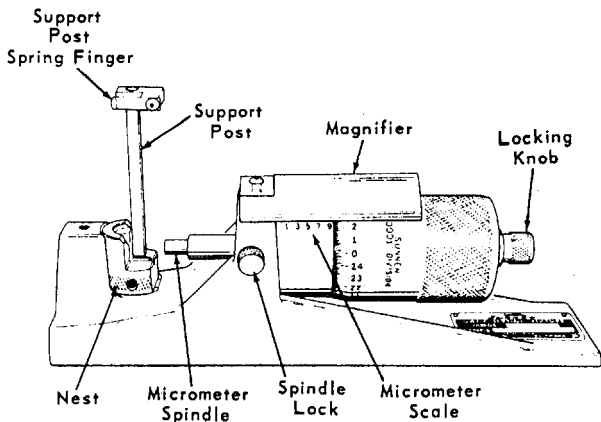

FIGURE 7
5. Select the correct Nest (refer to the marking on the Nest or to Table 2 below) and place it in the Setting Fixture (see Figure 7). The GR-6000 Series Gage will seat properly on only the CF-560A Nest.